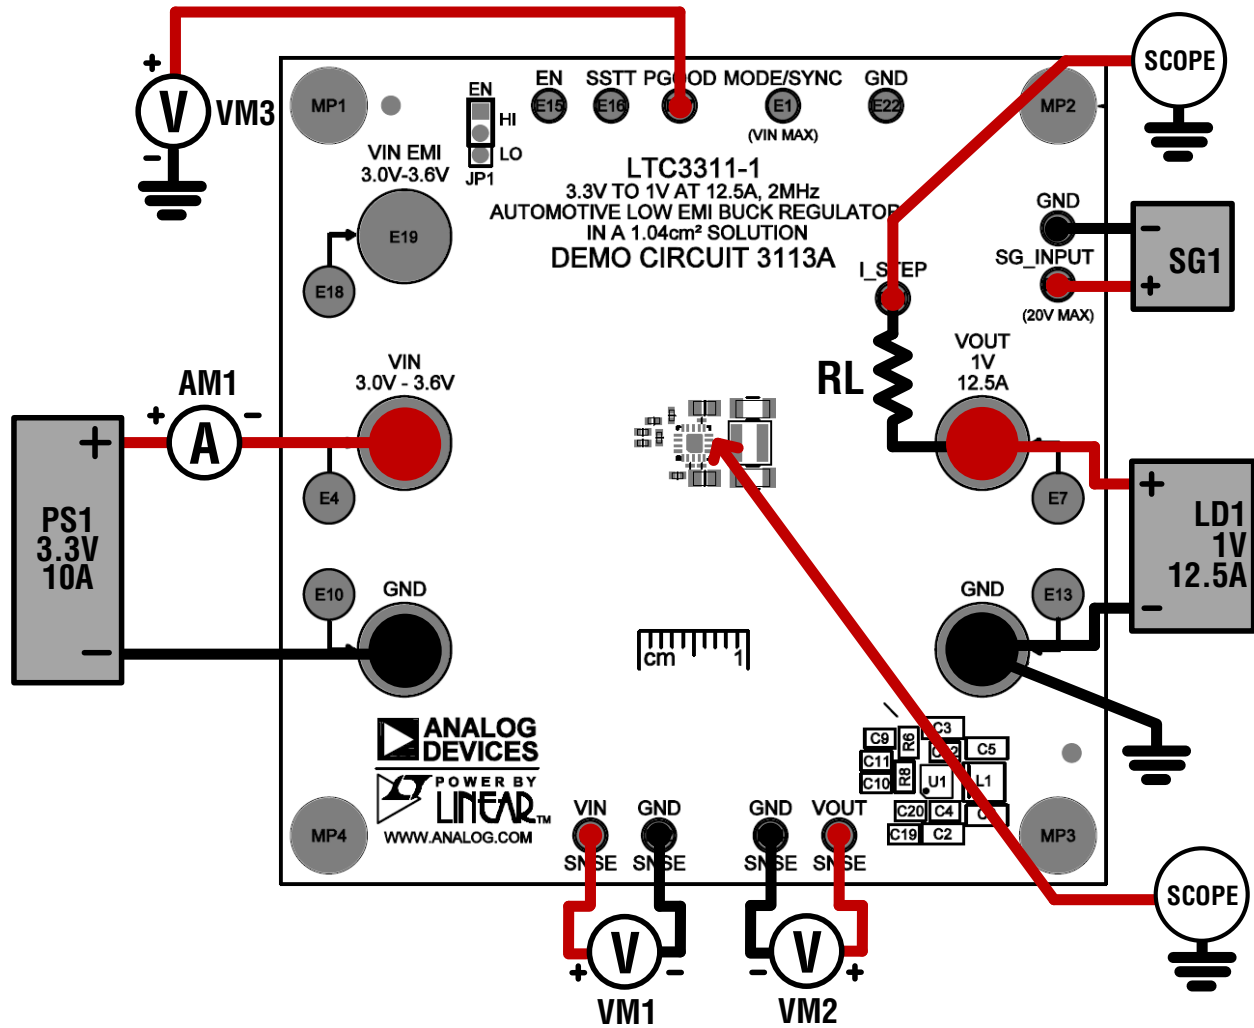

Figure 2. Test Setup for DC3113A Demo Board
Refer to Figure 2 for the proper measurement equipment setup and follow the procedure below:
NOTE: For accurate V_{IN} , V_{OUT} and efficiency measurements, measure V_{IN} at the VIN SNSE and GND SNSN turrets, and measure V_{OUT} at the VOUT SNSE and GND SNSE turrets as illustrated as VM1 and VM2 in Figure 2. When measuring the input or output ripple, care must be taken to avoid a long ground lead on the oscilloscope probe.
- To test the transient response with a base load, add the desired resistor to produce a minimum load between V_{OUT} and I_STEP turrets (R_L shown on Figure 2). Note that the total load resistance will be R_L plus R10 (10m Ω). Adjust a signal generator with a 10ms period, 10% duty cycle and an amplitude from 1V to 2V to start.